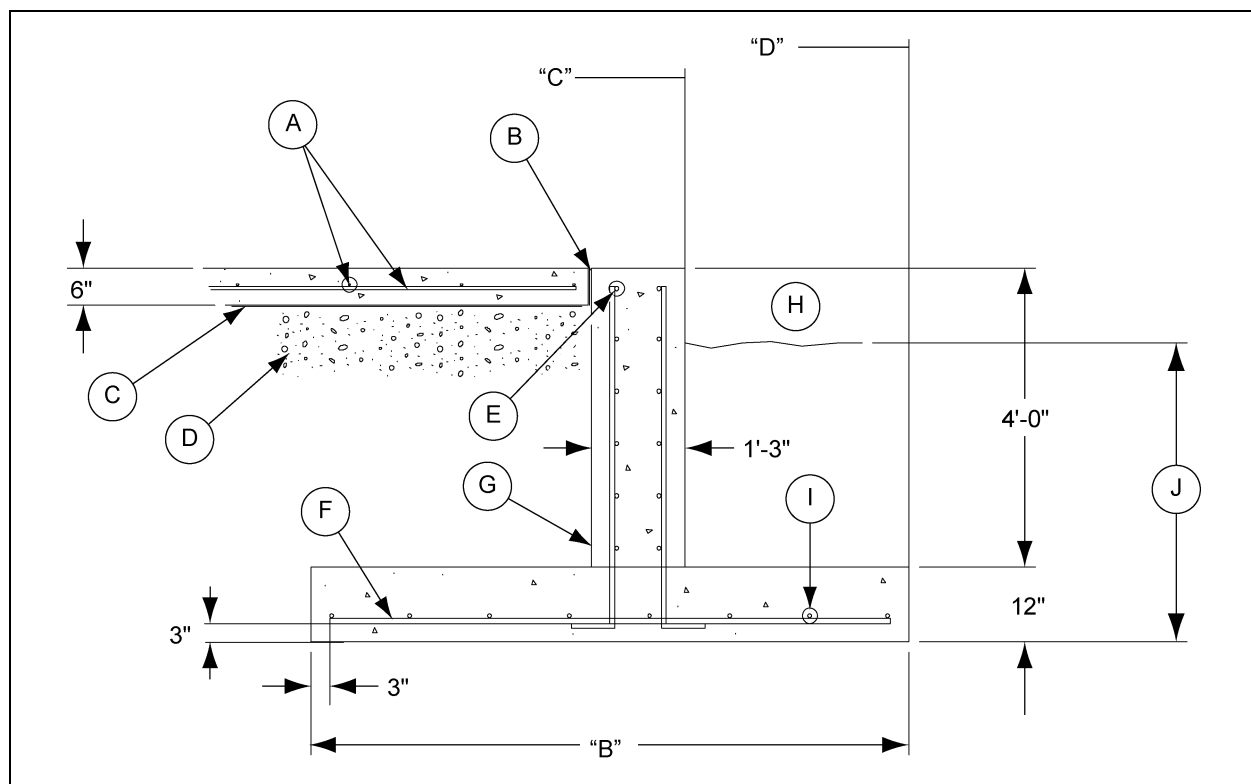

Figure 4AD Inverted "T" Foundation
7. All material used for backfill inside the ring wall should be a clean, well graded, crushed rock or a sand and gravel mixture. Backfill should be placed in 6" lifts, 95% compaction. (See Figure 4AD on Page 40.)